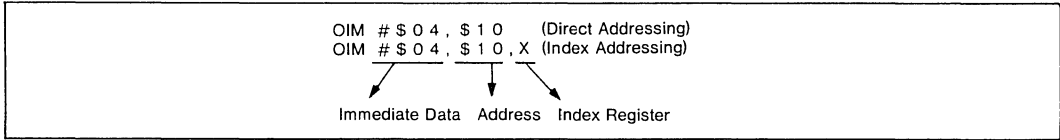

Figure III-16. OIM Example
**Answer:** They are written as shown in figure III-16.